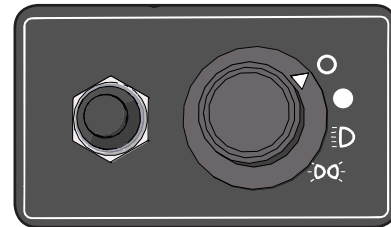

Figure 2 - Master Control Switch
1. Turn the master control switch to the OFF position (See Figure 2).